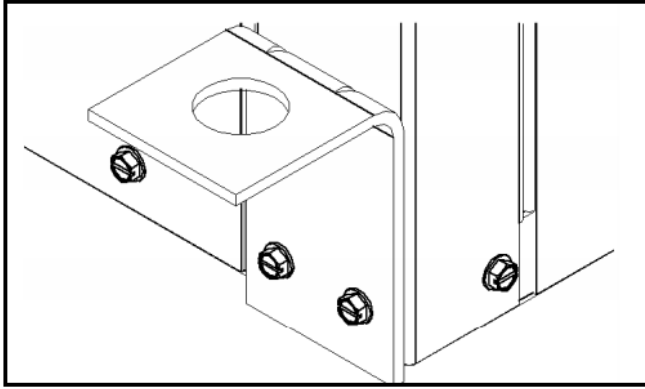

Fig. 6 — Mounting Brackets
2. Mount 4 brackets to unit corner post using the bolts provided in the kit, as shown in Fig. 6. DO NOT re-use the screws removed from the unit during Step 1 to mount the hanging brackets on the unit.